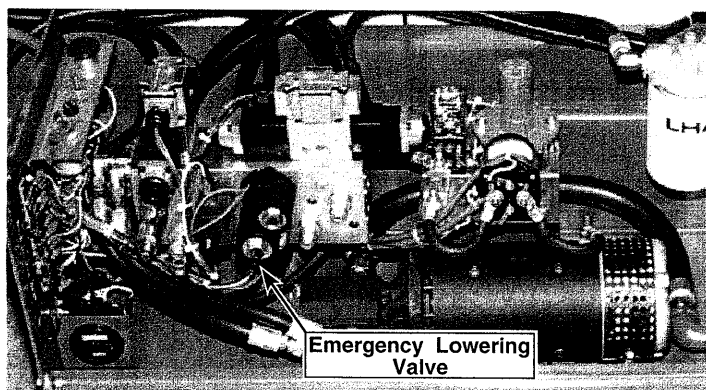

Figure 2-1: Control Module, Right Side
5. Close the Emergency Lowering Valve (Figure 2-1) by pushing in on the knob and turning $\frac{1}{4}$ turn clockwise until the detent engages.